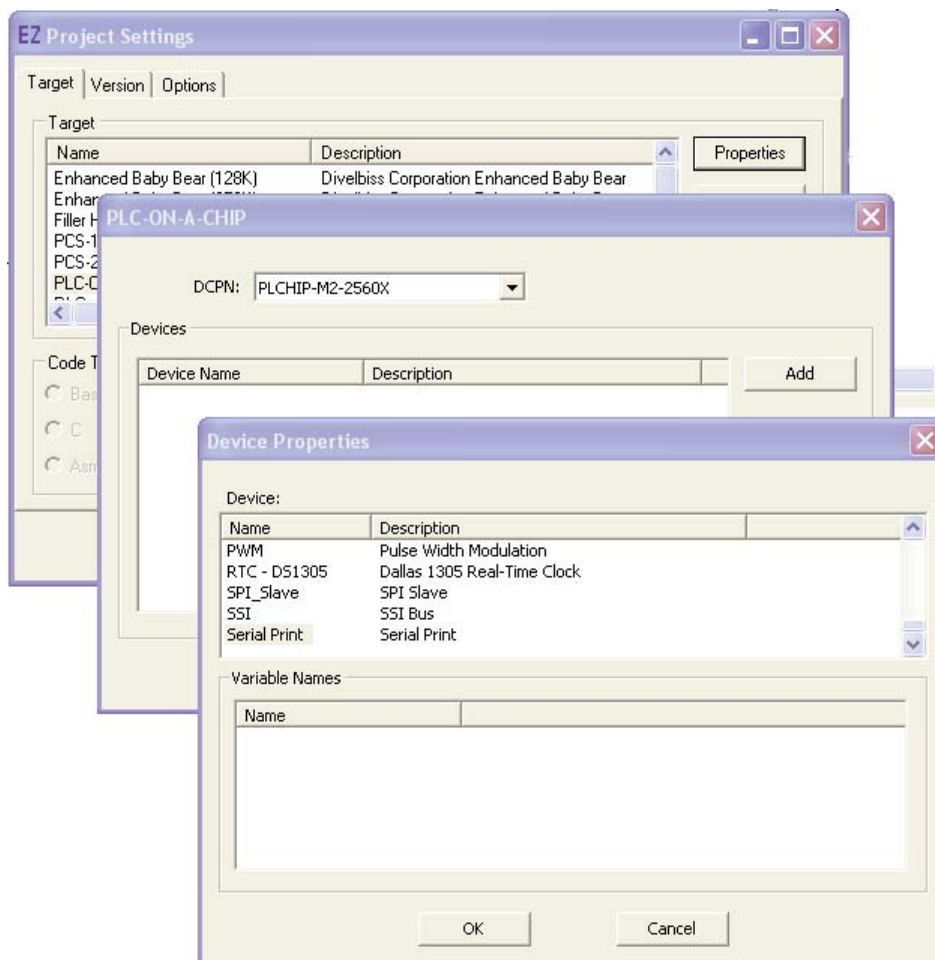

Figure 12.1
4. From the provided ADD dialog *Devices* list, select the Serial Print. See Figure 12.1.